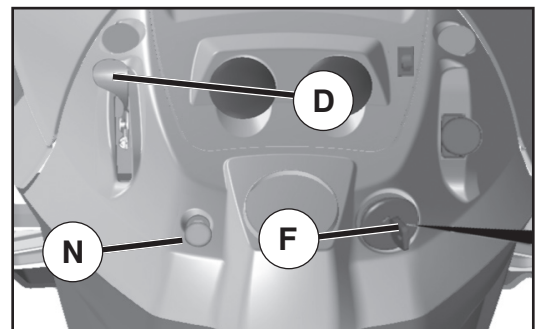

Fig. 6
- Move throttle control (D) between half and full speed (fast) position.
- Turn ignition key (F) to “STOP” position and remove key. Always remove key when leaving tractor to prevent unauthorized use.
### TO USE THROTTLE CONTROL (D) (See Fig. 6)
### TO USE CHOKE CONTROL (N) (See Fig. 6)